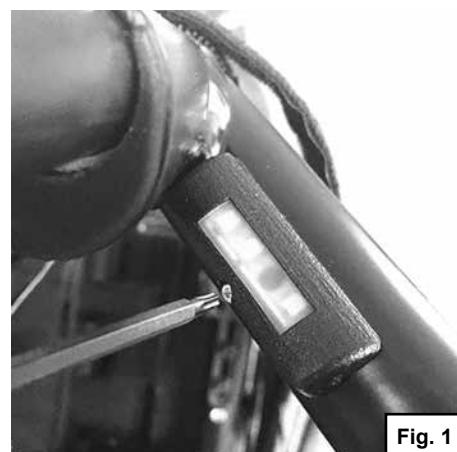

Fig. 1
5. Tighten the self-tapping screw with a max. torque of 2Nm (Fig. 1)